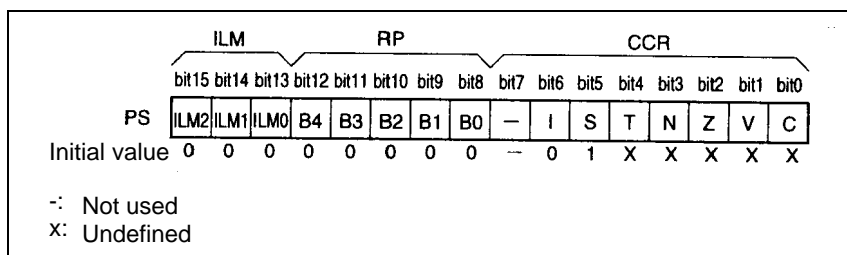

Figure 2.7-8 Processor status (PS) configuration
Figure 2.7-8 shows the configuration of the processor status (PS).